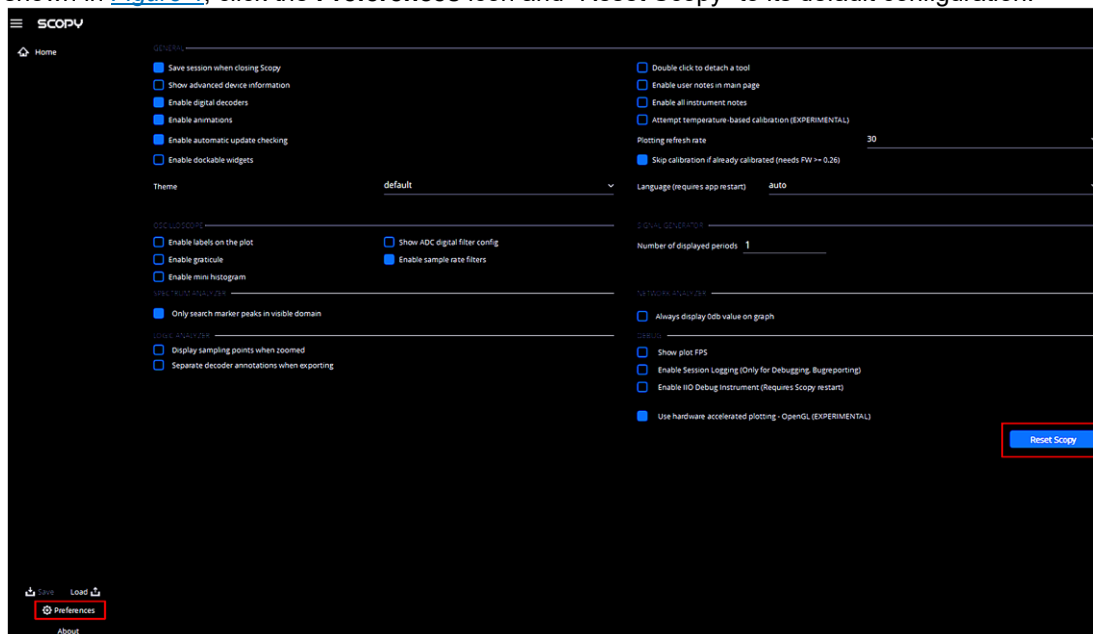

Figure 4. Resetting Scopy to Factory Default Settings
3. As shown in Figure 4, click the **Preferences** icon and “Reset Scopy” to its default configuration.